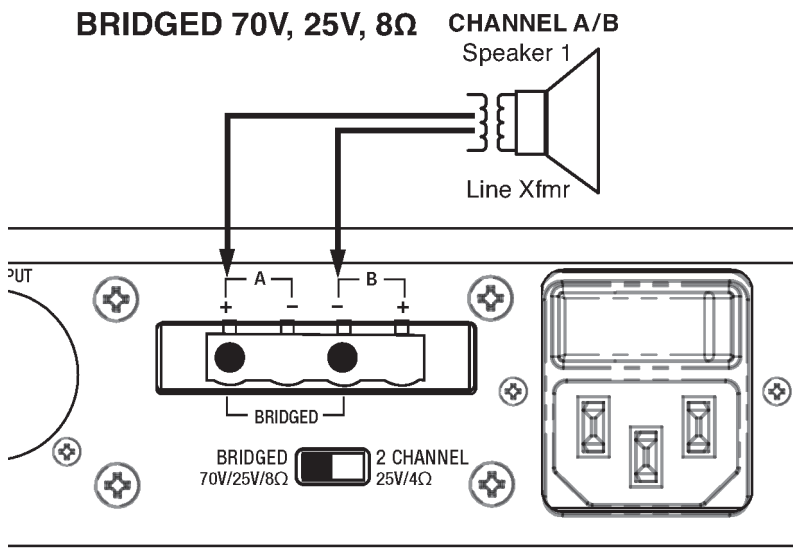

Figure 1. Bridged Wiring Diagram
5. Connect the loudspeaker wires to the Amplifier Output Terminals, which are labeled A +/- and B +/-, as appropriate for the desired mode of operation (see Figures 1 and 2).
Bridged mode operation requires the speaker wires to be connected across a single, different terminal on each channel (A+ and B-). (See Figure 1.)